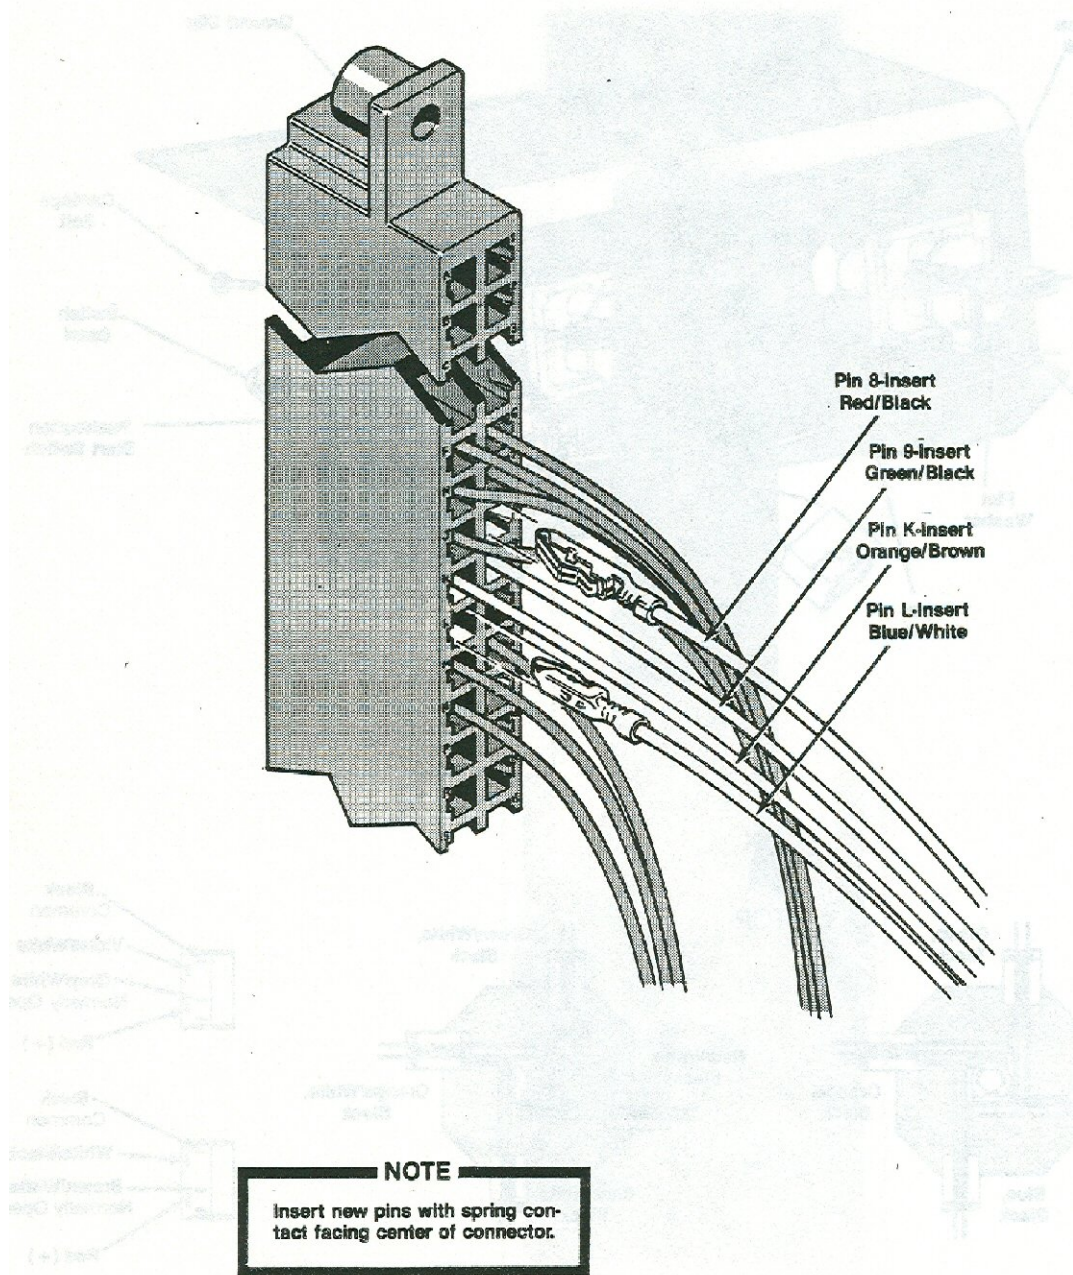

Figure 4 Harness Wire Installation
1. Insert the four wires from the main conversion harness assembly into the pin sockets of the 44-pin PCB edge connector as shown in Figure 4. Make sure the contacts are positioned properly before locking the pins in place.